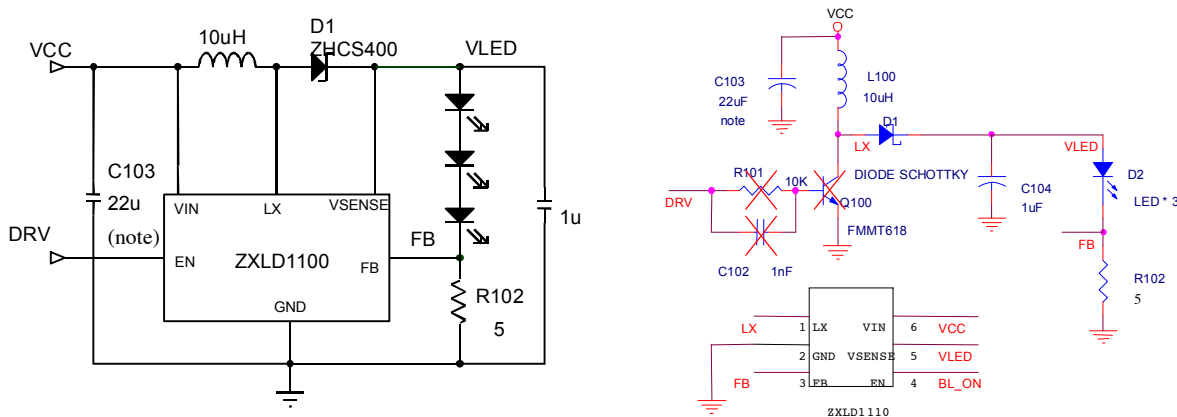

Fig.12 External LED driver Circuit
Using external LED driver circuit is the best way to reduce the wave like phenomenon, Adopting external LED driver circuit is recommended , See Fig. 12 for the application circuit.
According to Fig. 12,the LED driver(ZXLD1100) and R102(5 ohm) with 0.2V feedback (FB) can provide a constant 20mA current for LED backlight unit.To control the back light on/off timing,user should create a control signal BL_ON(please refer to the ZXLD1100 date sheet). The LCD driver output DRV signal can also be used to drive BL_ON, in the condition of fine tune the R102 value to get the desired LED current value.